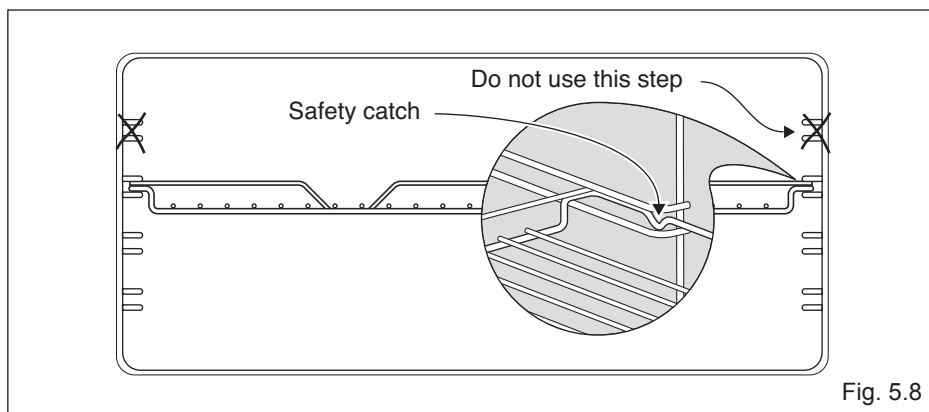

Fig. 5.8
- Slide in, on the guides, the shelves (fig. 5.8). Do not use the first step from the top. The rack must be fitted so that the safety catch, which stops it sliding out, faces the inside of the oven.